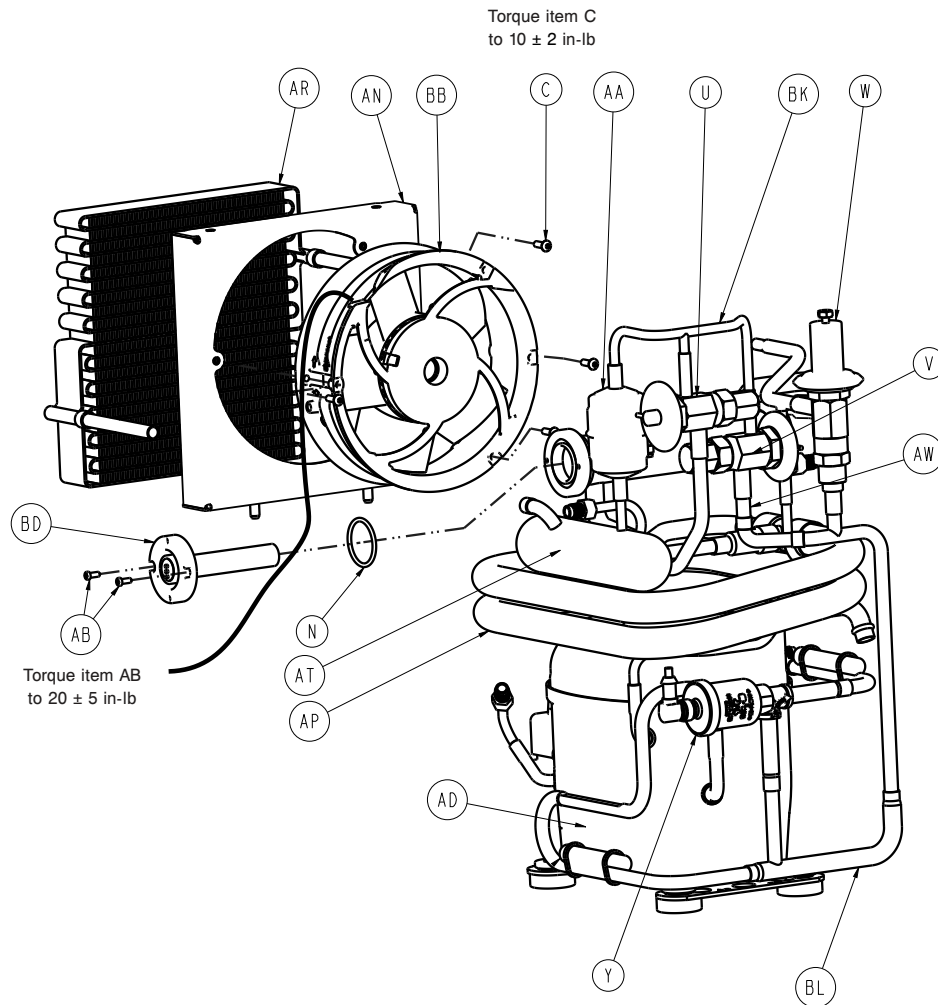

Figure 25 – Heater well
23. Using a T10 torx, remove and save the two screws (AB) that secure the heater (BD) to the heater well assembly (Figure 25).